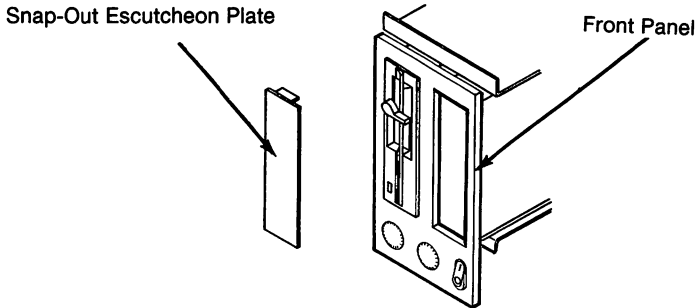

Figure 4-16 Remove Escutcheon Plate (if present)
1. For a PC unit that has only one disk drive, remove the flat plastic escutcheon plate through the front of the "outboard" drive position. The plate simply snaps out of the front panel rectangular opening. Refer to Figure 4-16. Store the plate or discard at your option.
1. For a PC unit that had only one disk drive, remove the flat plastic escutcheon plate through the front of the "outboard" drive position. The plate simply snaps out of the front panel rectangular opening. Refer to Figure 4-16. Store the plate or discard at your option.